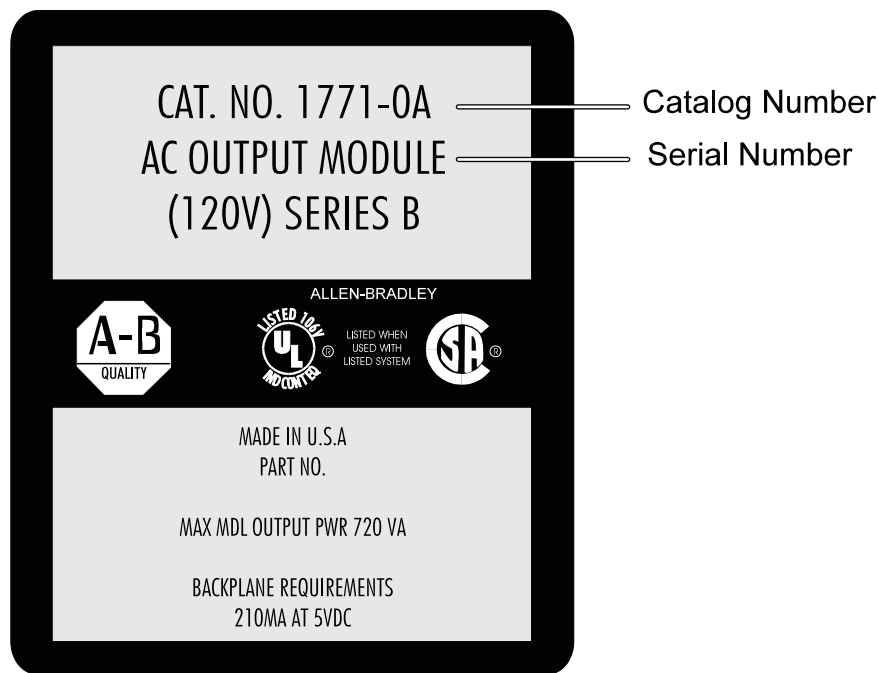

Figure 7-1
- The Catalog Number and Series information on the replacement unit's identification plate must be identical to the information on the module you are removing. *See Figure 7-1.*